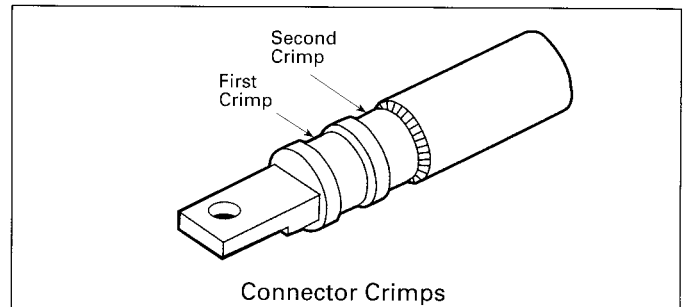

Figure 2
- H. Select an appropriate tool and die combination from Table 1 and make the required number of crimps within the boundaries stamped on the connector barrel. Refer to Figure 2 for sequence of multiple crimps.